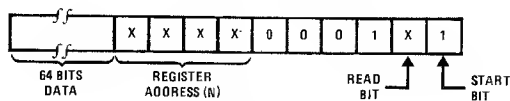

FIGURE 3a
- During a valid handshake, the data stream consists of: a start bit, a read/write bit, a 4-bit Delay, 4 register address bits and 64-bits of data as shown in Figure 3a. Data flows serially in or out of the MM57126, depending on the read/write command.